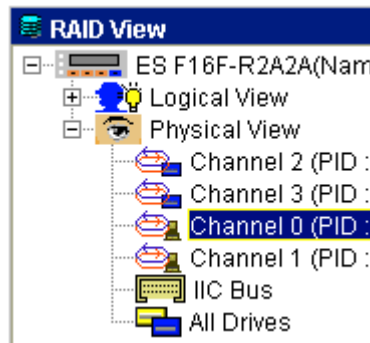

Figure 9-1: Select the Host Channel
Step 1. In the navigation panel under **Physical View**, click on the **Host Channel** where you would like to map a drive or volume (see *Figure 9-1*).